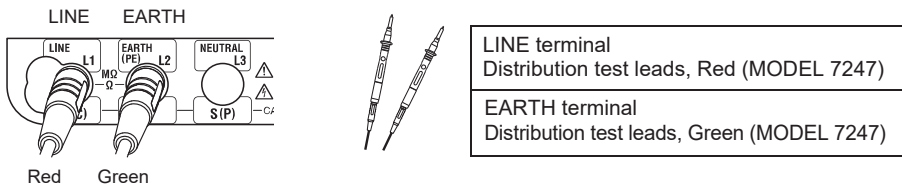

Fig. 11-9
- (1) Press the POWER switch and turn on the instrument. Turn the rotary switch and set to EARTH (GROUND) position.
- (2) Press the F1 switch and select "2W(LIVE)" .
- (3) Connect the test leads to the instrument as illustrated below. (Fig. 11-9)